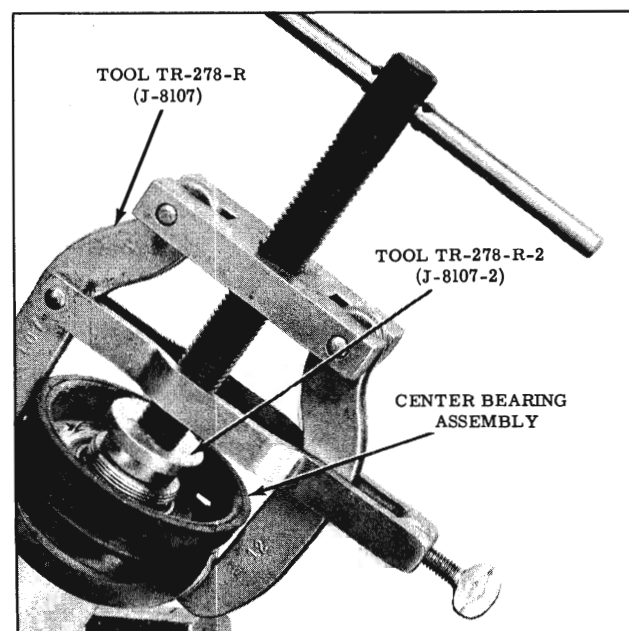

Fig. 6-143 Removing Center Bearing Assembly
5. Remove the center bearing and insulator assembly using Puller TR-278-R and Adapter TR-278-R-2 as shown in Fig. 6-143. The bearing and insulator can then be replaced as an assembly or only the bearing may be replaced separate from insulator. If bearing is to be removed from insulator, continue with Step 6.